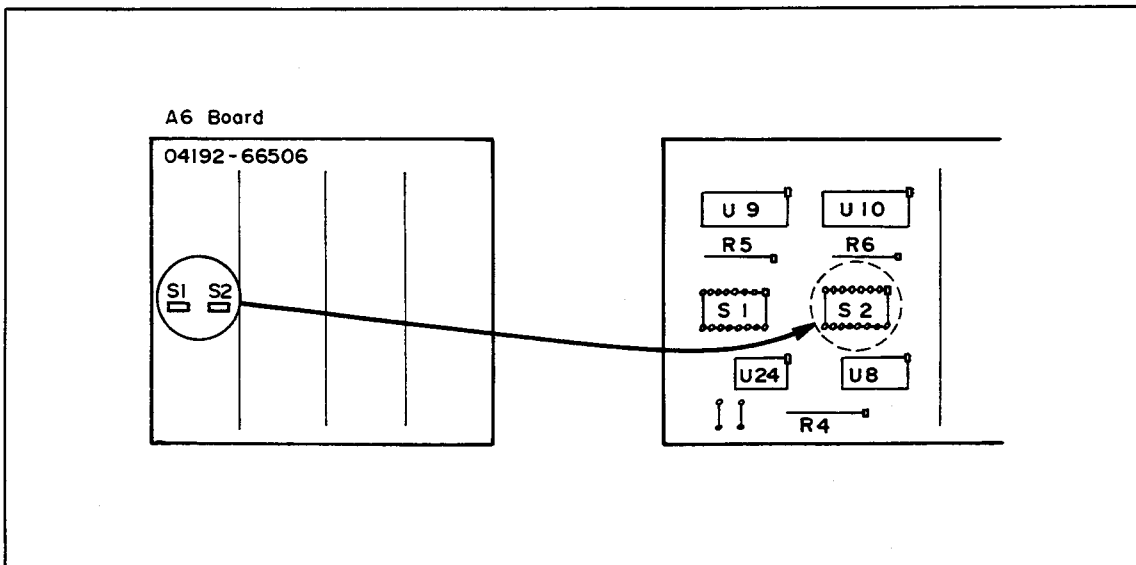

Figure 3-43. A6S2 Internal Control Switch
- (5) With the top cover removed, the A7, A8, and A10 board assemblies are visible. These boards are on a single mounting-plate which opens much like the hood of an automobile. The A6 board assembly, upon which the internal control switch is located, is mounted on the underside of this mounting-plate. To raise the mounting-plate, remove the six retaining screws and pull up the two plastic fasteners located toward the front of the mounting plate.
- (6) Raise the mounting plate until it comes to rest at the rear of the instrument. Be sure that the safety catch locks in place.
- (7) The internal control switch is located as shown in Figure 3-43. All bit-switches of A6S2 are normally set to 0. Set the switch as desired. Refer to Table 3-28.